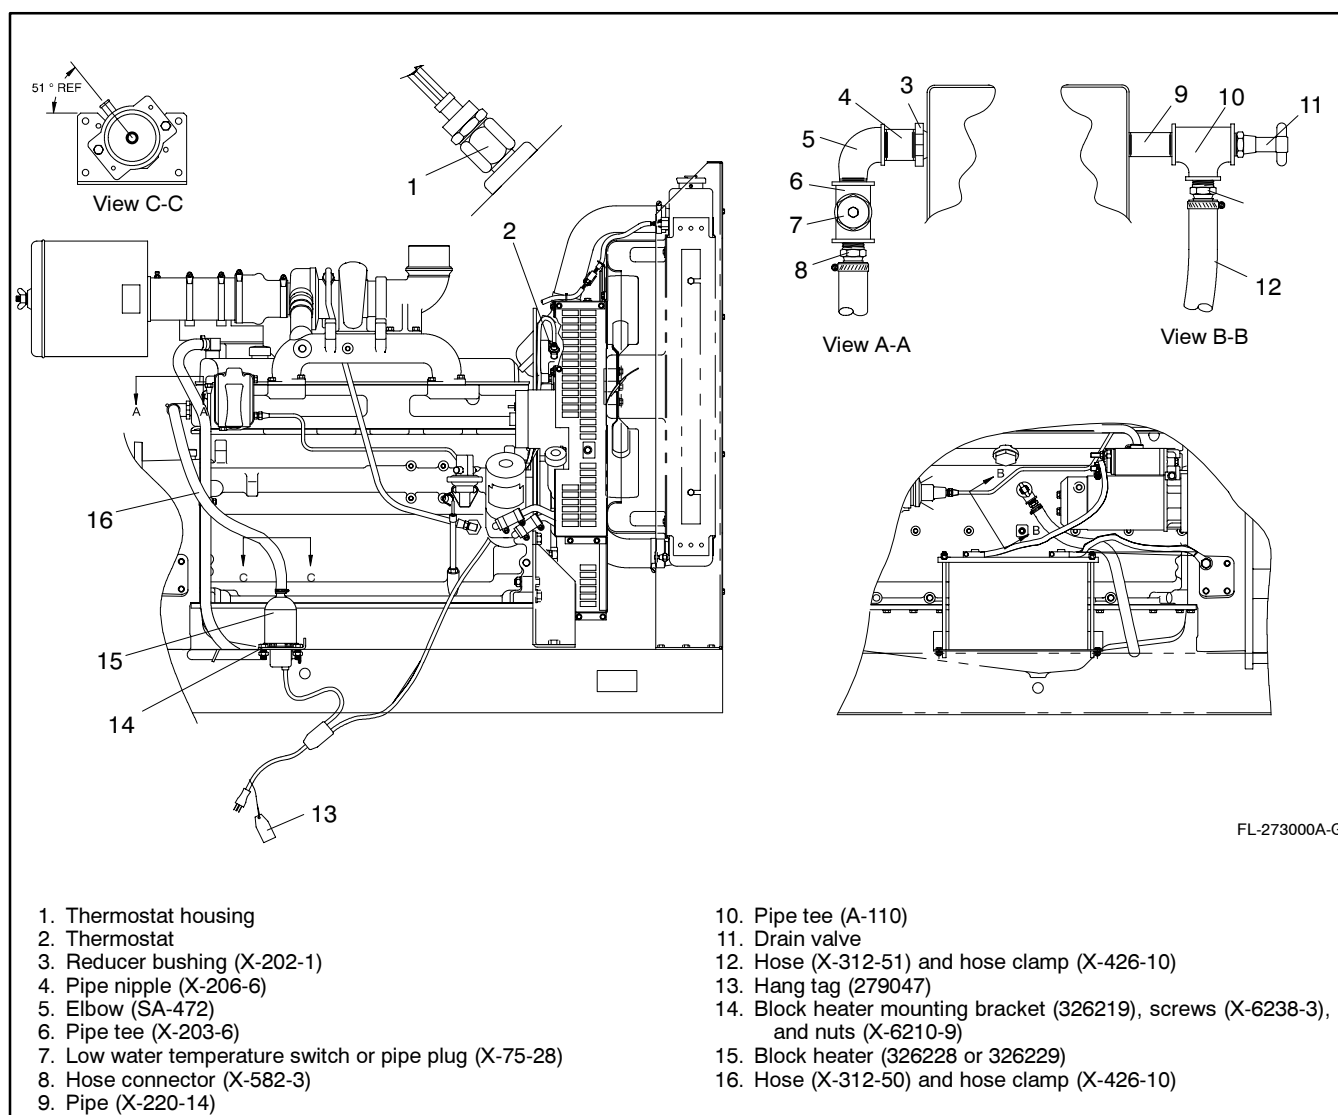

Figure 1 Block Heater Installation
5. Secure block heater (326228 or 326229) and block heater mounting bracket (326219) to the generator set skid with screws (X-6238-3) and nuts (X-6210-9). See Figure 1.
7. Remove the pipe plug for thermostat installation. See Figure 1 for location.
11. Remove the low water temperature switch from the rear of the engine, if equipped, with the anticipatory alarm kit or pipe plug for outlet hose connection. See Figure 1.
20. Remove the existing drain valve from the engine. See Figure 1 for location.
23. Apply pipe sealant to the threads of the drain valve removed in step 20 and install in the end of the pipe tee. See Figure 1.
24. Apply pipe sealant to the threads of hose connector (X-582-22) and install in the pipe tee. See Figure 1.
26. Connect the opposite end of the hose installed in step 25 to the block heater inlet. Route the hose under the engine as shown in Figure 1. Secure the hose to the block heater inlet with hose clamp (X-426-10). Place the hose clamp 6 mm (0.25 in.) from the hose end and tighten.
27. Secure hang tag (279047) to the power cord. See Figure 1.